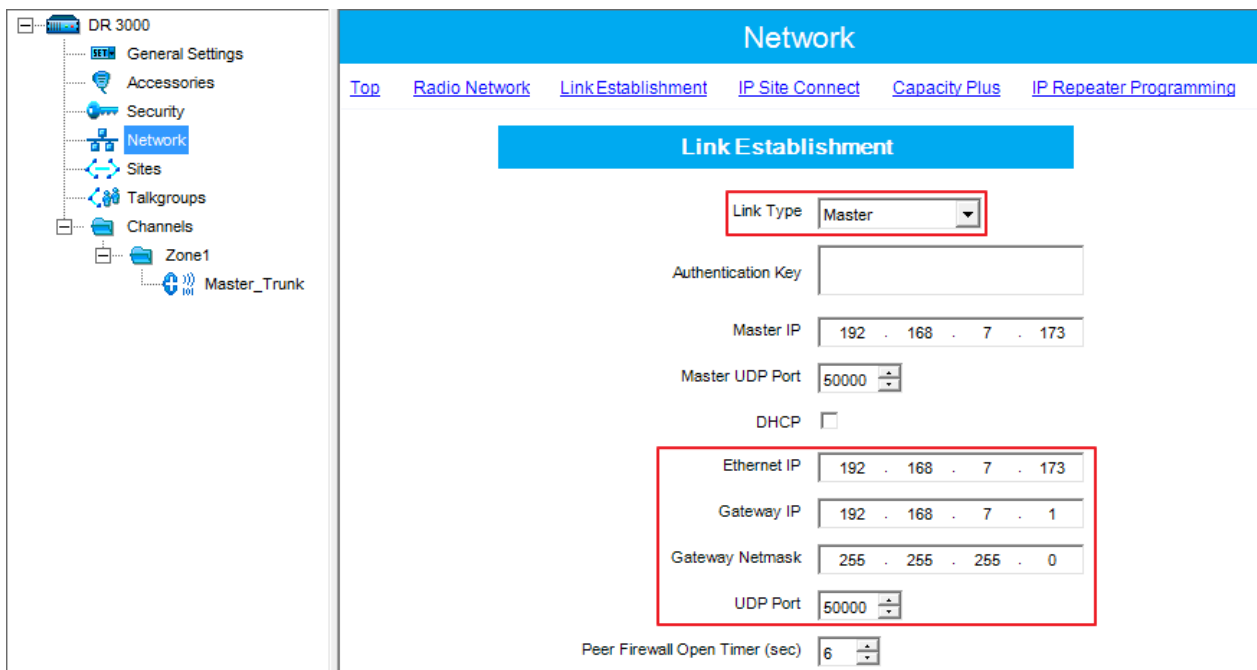

Fig. 6 - Setting Network parameters for Master repeater
4. Set the repeater and gateway IP addresses, gateway network mask, and UDP port (Fig.6).